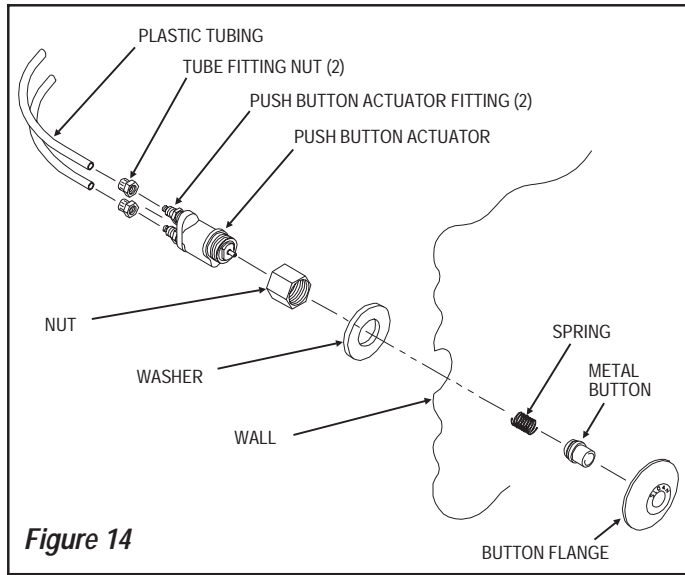

Figure 14
**INSTALLATION OF MODEL HY-108-A METAL PUSH BUTTON ACTUATOR (Figure 14)**